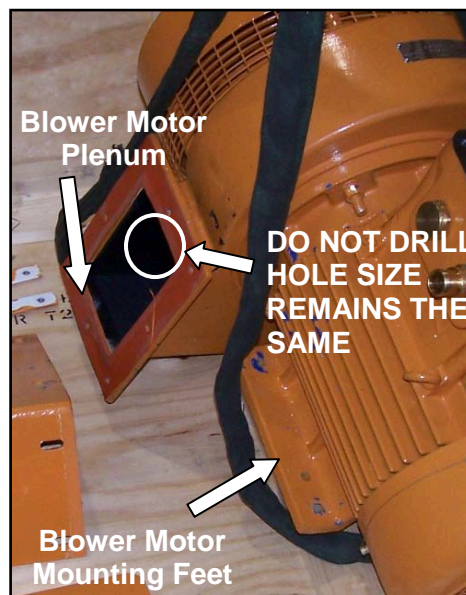

Figure 6: Blower motor plenum and mounting feet
4. Drill seven of eight holes in the blower motor plenum mounting plate to drill size W with the exception of one hole as shown in Figure 6, which remains the same size.